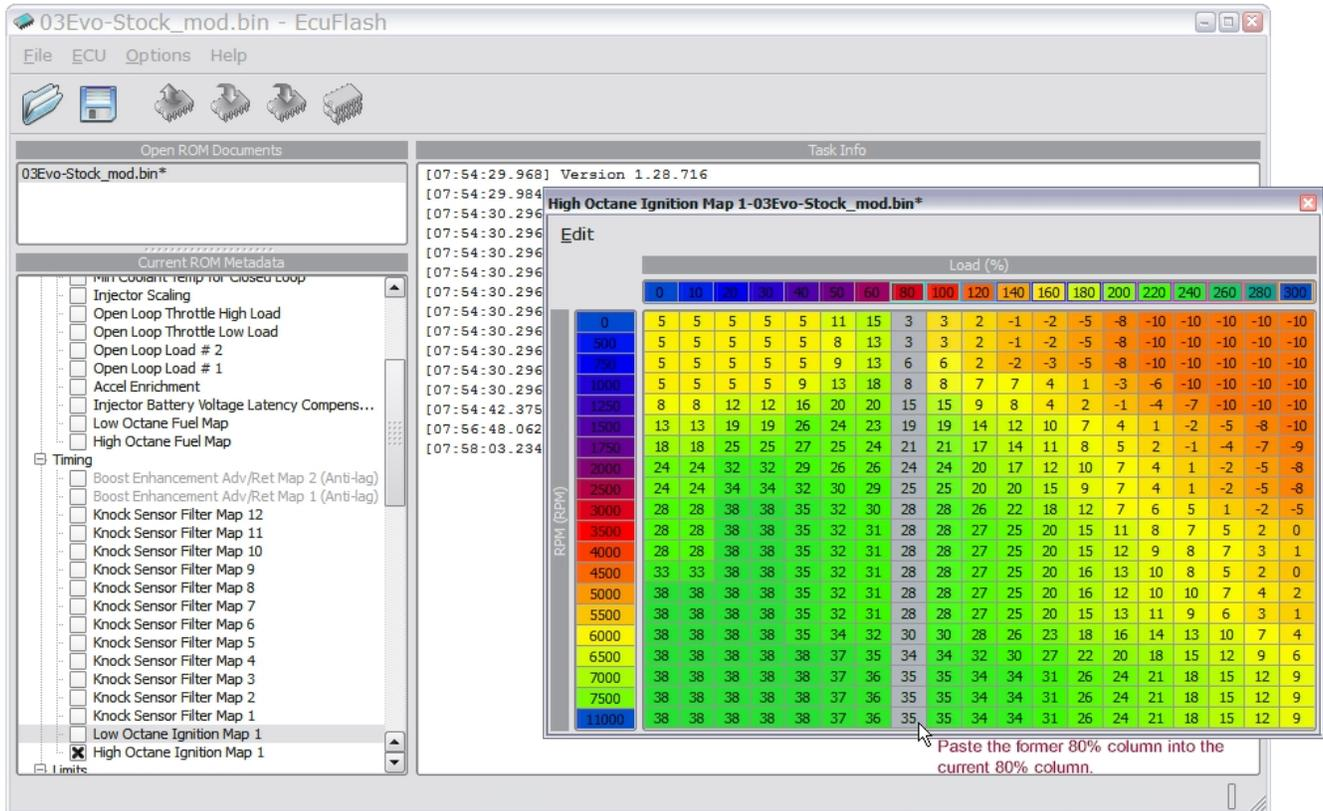

Figure 13, modified 2003 Evolution VIII ECU High Octane Ignition Map, paste 80% column
- o Paste selected cells into the 80% Load column (figure 13)
- o The map should now look like the map in figure 13. The 80% Load column and the 100% Load columns now contain the same values.